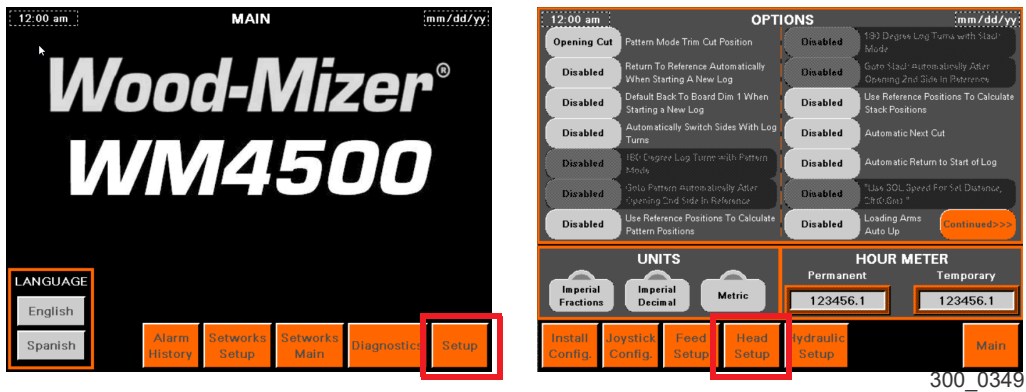

FIG. 3-41
1. From the Main screen press the Setup button. (See Figure 3-41.)
2. On the Setup screen press the Head Setup button. (See Figure 3-41.)